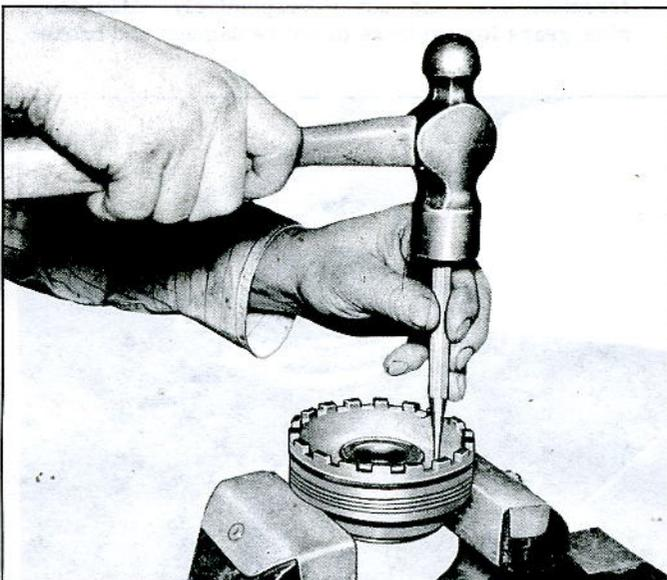

Fig. 26—Removing Side Bearing Race
3. Drive out the bearing race using a small pin punch as illustrated in Figure 26.